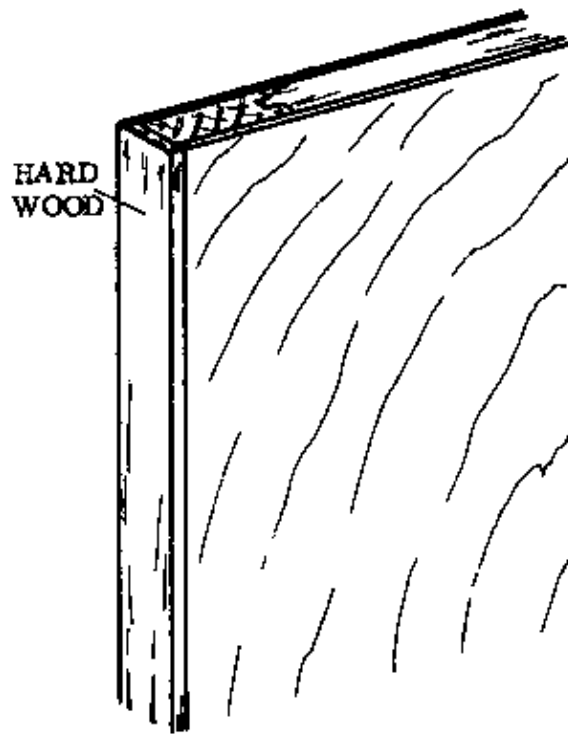

Fig. 4
– LIPPING: A strip of hard wood (Fig. 4) can be fixed to the striking stile to prevent damage to the plywood edges. Lipping is always done after the plywood has been fixed. A thoroughly painted lipping can be added to the top of the door if necessary to keep water out. The lipping joint should be a mitre joint.